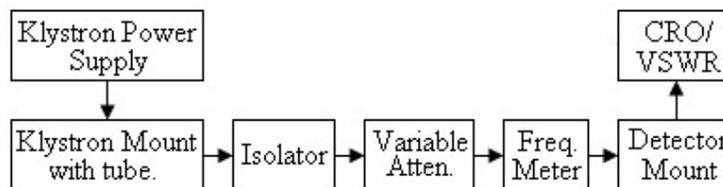

Fig.2- Block Diagram of Reflex Klystron Characteristics
- (i) Set up the components and equipment as shown in Fig.2